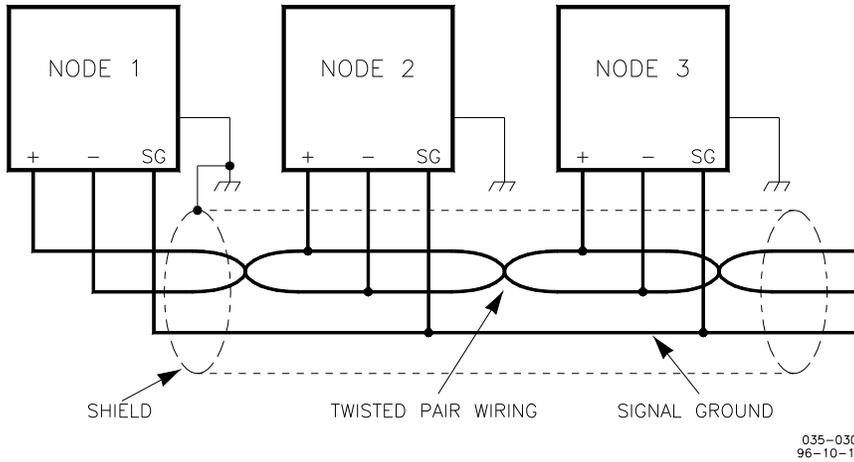

Figure A-4. Preferred Multipoint Wiring Using Shielded Twisted-pair Cable with a Separate Signal Ground Wire
**Non-isolated nodes may not have a signal ground available. If signal ground is not available, use the alternate wiring scheme in Figure A-4 with the signal ground connection removed on those nodes only.**